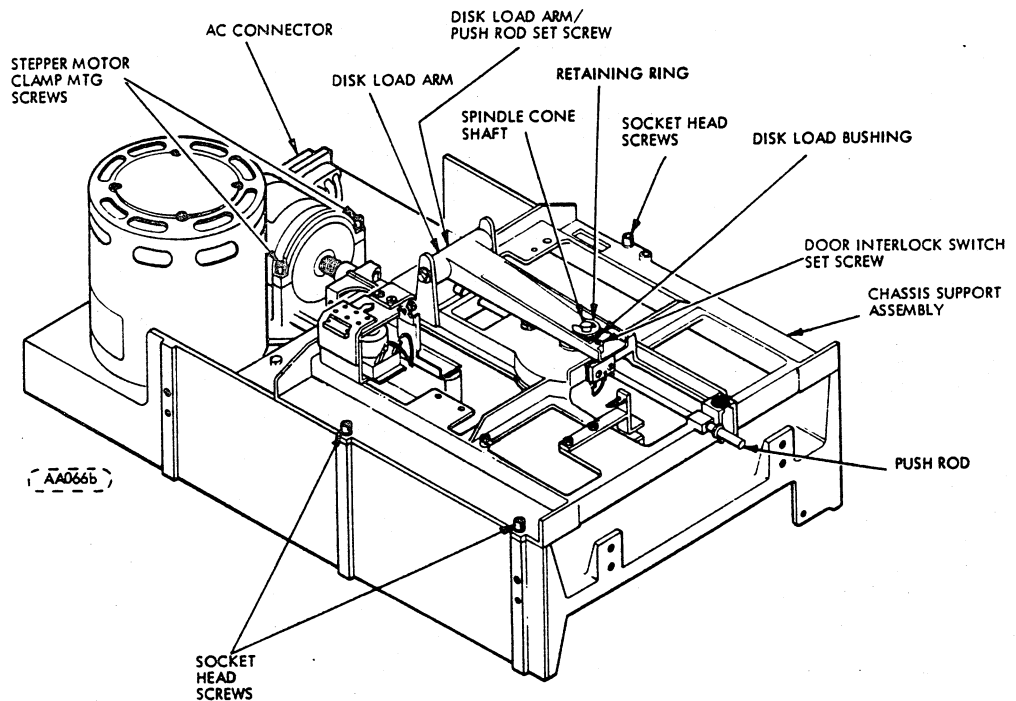
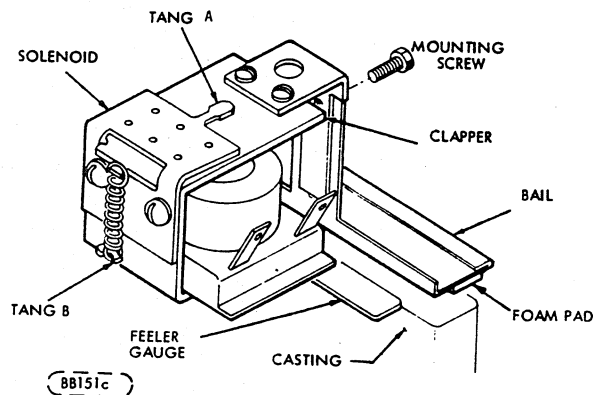

FIGURE 6-9. CHASSIS BASE ASSEMBLY
FIGURE 6-10. DISK LOAD SOLENOID
- h. If not in alignment, loosen the stepper motor clamp mounting screws to where a gap exists between the clamp and casting (see Figure 6-9) and slowly rotate the stepper motor to adjust the amplitude until the amplitude of both lobes is the same, that is, the difference between the bottoms of both lobes is less than 5 mV.
This procedure must be performed whenever chassis support (Figure 6-9) is removed and replaced.
- a. With front panel door closed, verify that a gap exists between the retaining ring and the disk load bushing between 0.025 and 0.035 in. (0.635 and 0.889 mm) (Refer to Fig. 6-9). Perform steps b and c if out of adjustment.
- c. Adjust disk load arm set screw (Figure 6-9) until gap is approximately 0.030 in. (0.762 mm), with door closed.
- b. With door closed, adjust set-screw at end of disk load arm (Figure 6-9) while holding door closed against metal stop. Adjust set-screw until micro-switch is almost adjusted flush to top of switch case. This ensures that as the nylon tips on the push-rod wear down, the switch will still close.
- c. Loosen mounting screw on bail (Figure 6-10).
- a. Loosen chassis support assembly (Figure 6-9).
- f. Secure socket head screws (Figure 6-9) and again recheck steps "c" through "e".
- b. To adjust, loosen the two hex-head screws holding the sensor mount in place. With the front panel door open, push down on the disk load arm (Figure 6-9) to insure that the disk is in the loaded position (Figure 6-10). At the same time, grasp the end of the envelope and move from side-to-side, and forward and backward while observing the WRITE PROTECT signal at U30 pin 14/R82-East. Adjust the mount until the WRITE PROTECT signal is present for any position of the envelope.
- c. Remove four (4) socket head screws securing chassis support (Figure 6-9).
- a. Place the tapered end of a flat head screw driver between Tang A and solenoid clapper. (See Figure 6-10).